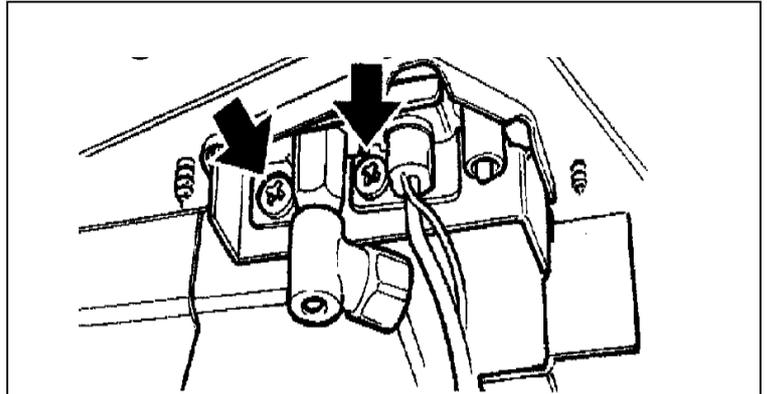

Figure 29. Pilot unit removal
- Remove the first screw securing the dust cage to the pilot unit & burner. Carefully remove the dust cage and place aside. See figure 29.